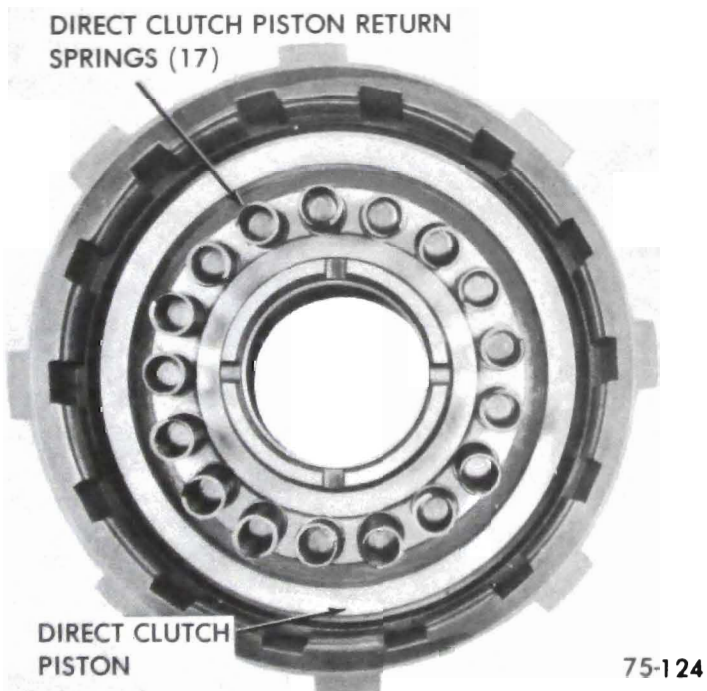

Figure 75-167
9. Remove seventeen (17) clutch return coil springs and piston. See Figure 75-167.
4. Install seventeen (17) clutch return coil springs. See Figure 75-167. Return springs are violet in color.